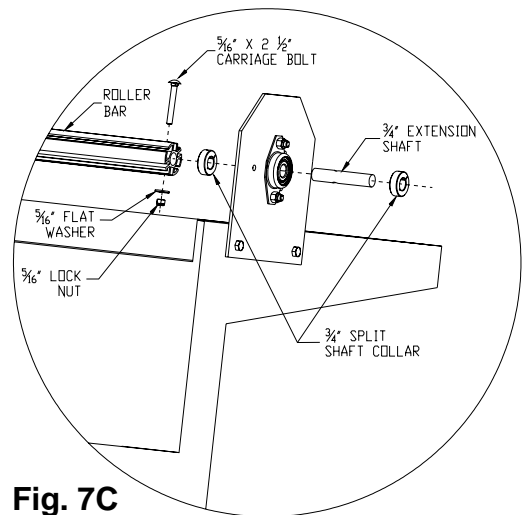

Fig. 7C
4. Slide the extension shaft through the bearing plate, split shaft collars and into the roller bar. Line up the holes in the roller bar with the hole in the extension shaft and secure with the 5/16" carriage bolt, washer, and nut. (See fig. 7C)